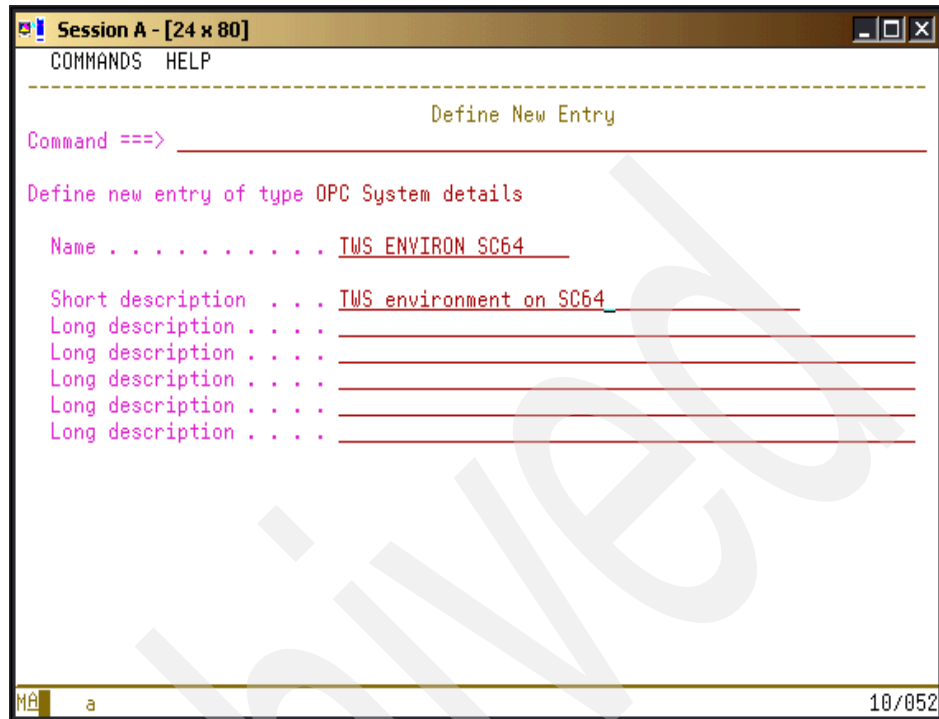

Figure 4-50 OPC Systems details Define New Entry panel
2. Type **new** on the command line and press Enter. The Define New Entry panel that is shown in Figure 4-50 on page 156 displays.